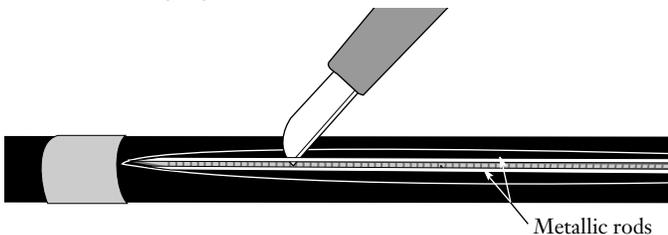

Figure 28
7.5 Using the cable knife again, separate the two metallic rods from the jacket on both sides of the cable (Figure 28). Use caution when inserting the cable knife under the rods to avoid damaging the central tube.